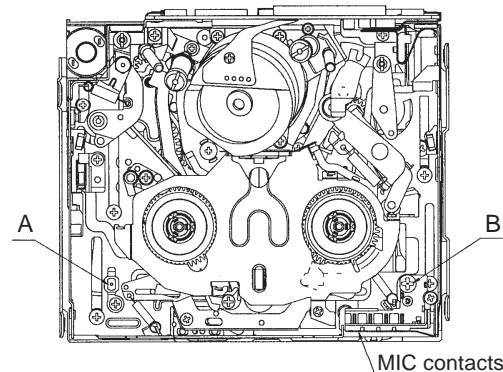

Fig. 2
- (1) Remove the cassette controller assembly (refer to 9-2).
(2) Referring to 9-1, apply DC3V to the loading motor and put the system into playback mode.
(3) Taking adequate care so that the master plane does not contact drum, running parts (guide roller, etc.), or the MIC contacts. Fit the master plane holes to the 2 guides (A and B) in Fig. 2.